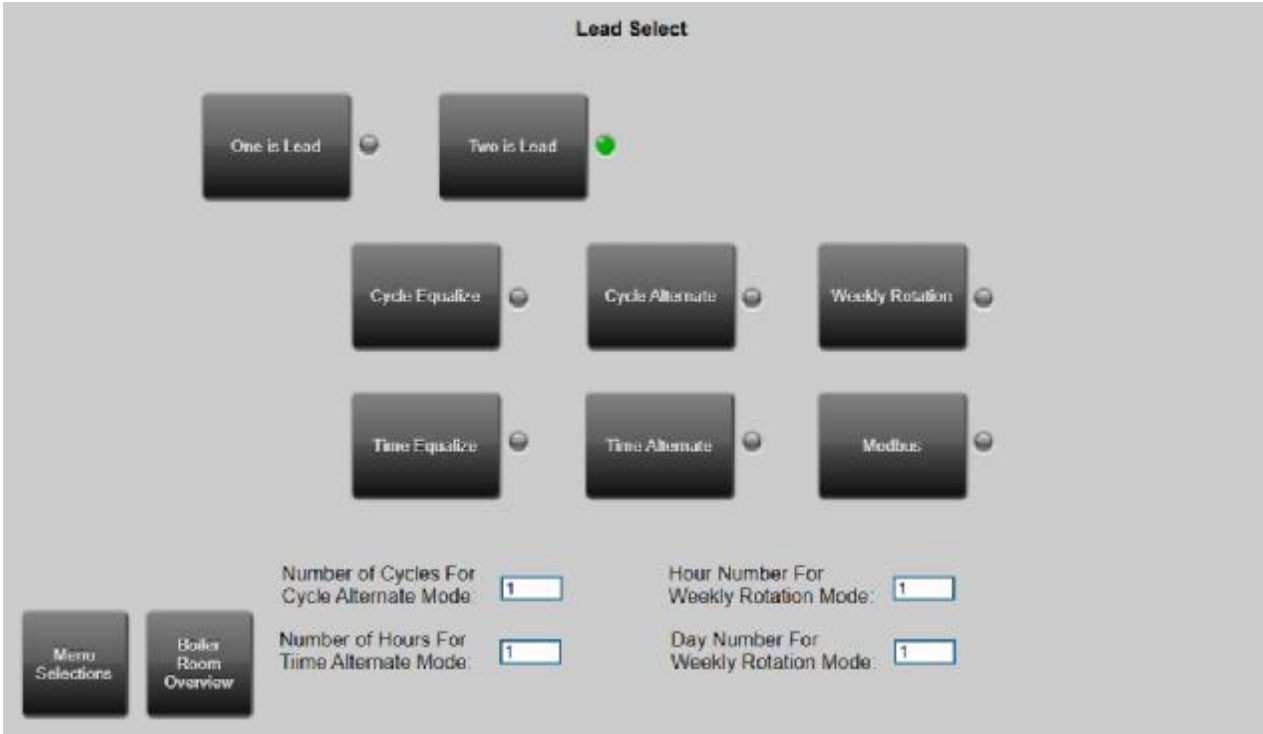

Figure 11: Lead Select Screen
**Cycle Alternate Mode:** The lead burner is rotated after the chosen number of firing cycles have elapsed. The chosen number of cycles is entered in on Lead Select Screen This screen is shown in Figure 11 below.
**Time Alternate Mode:** The lead burner is rotated after the chosen number hours. The chosen number of hours is entered in on Lead Select Screen. This screen is shown in Figure 11 below. The hour timer resets when the mode is changed.